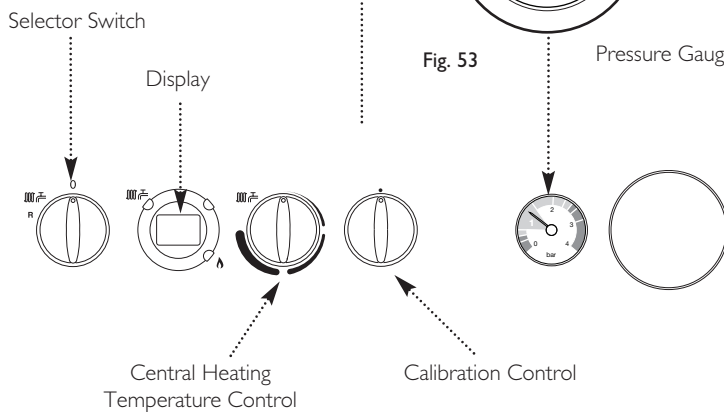

Fig. 54
9. Turning the temperature control knob will set the relevant temperature. When the knob is turned the display will alter and show the selected temperature. After a few seconds the display reverts to show the current boiler temperature (Fig. 54).